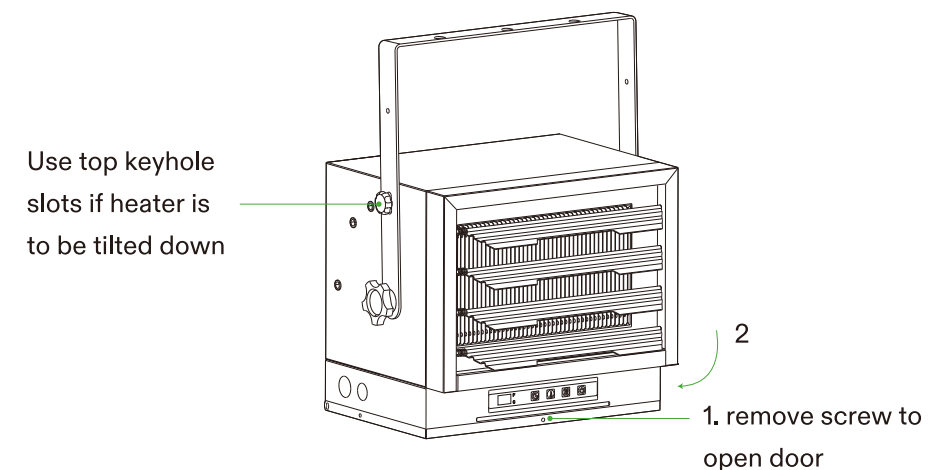

Figure 4
4. If the heater is to be tilted it must be positioned in the keyhole slots - see Figure 4.
2. To tilt the unit vertically, loosen the bracket screws (see Figure 4).